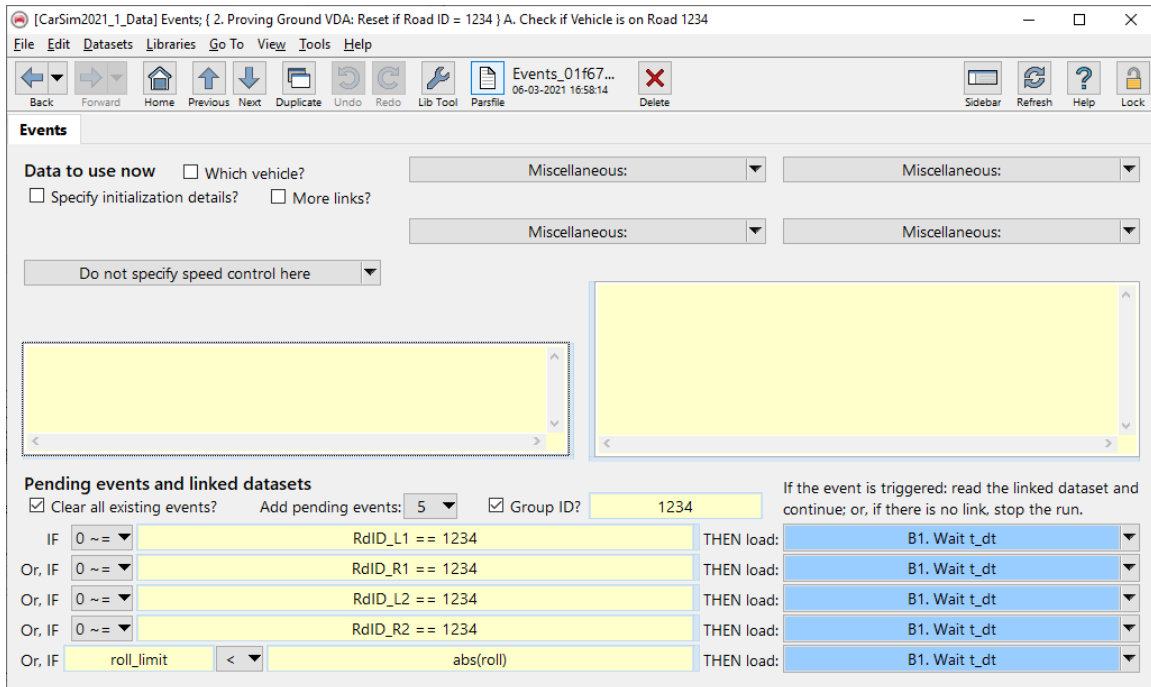

Figure 31. Event used to check tire position relative to Intermediate Road (ID = 1234).
3. The second Event series is always active and monitors the road IDs of the tires (Figure 31). When any of the tires cross a boundary, a switch occurs per the Road Boundary definitions. If the boundary leads to the intermediate road designated with ID 1234, this counts as an out-of-bounds condition and the vehicle is reset back to the center of the VDA South road, the same location where the vehicle was at the start of the simulation.